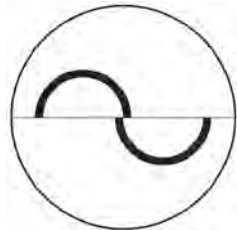

Figure IU-10 Circles
5. Gradually increase the pressure on the eye by turning the drum until the inner borders of the two fluorescein rings just touch each other. Refer to Figure IU-10.